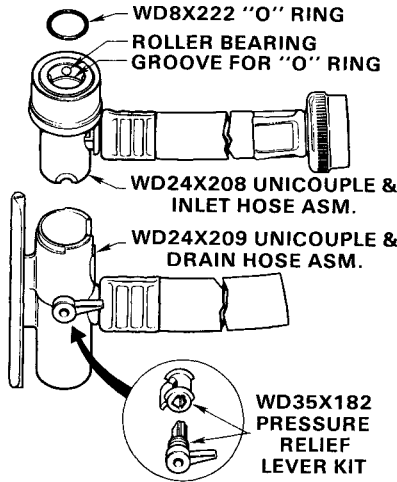

Figure 15 - Unicycle Design after Mid-1982
Two types of unicouples are used: (1) On all GE and Hotpoint models up to mid-1982 production the design shown in Figure 14 is used, and (2) on GE and Hotpoint porcelain tub models manufactured mid-1982 and later the design shown in Figure 15 is used.
To correct leaks where unicycle connects to faucet adapter, install a new WD8X222 rubber "O" ring. The "O" ring is seated in a groove inside the unicycle body. To remove, pry out with scribe or small knife. Position new "O" ring in groove. See Figure 15.